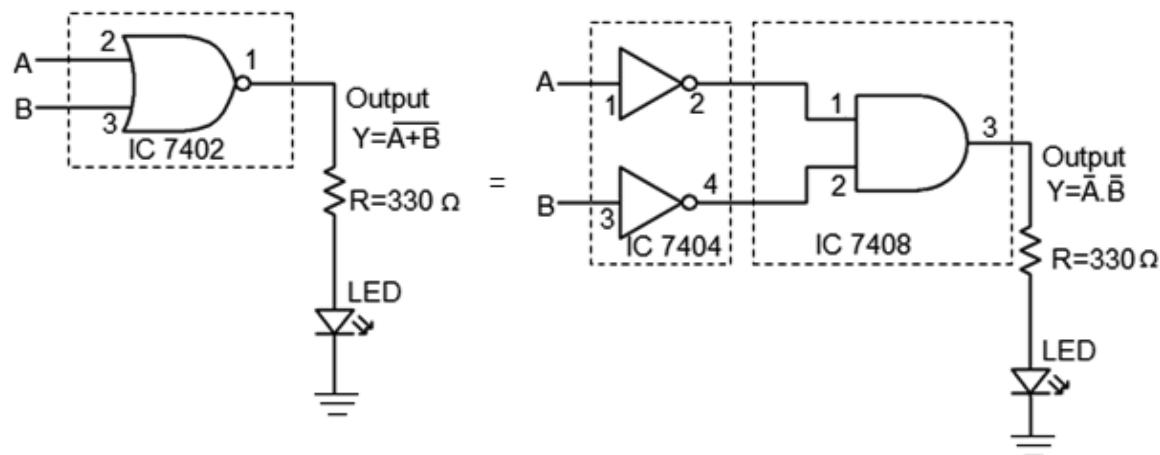

Figure 4.1 De Morgan's first theorem
- Make the connections as per figure 4.1 on breadboard and give supply voltage to relevant pin as per logic level.